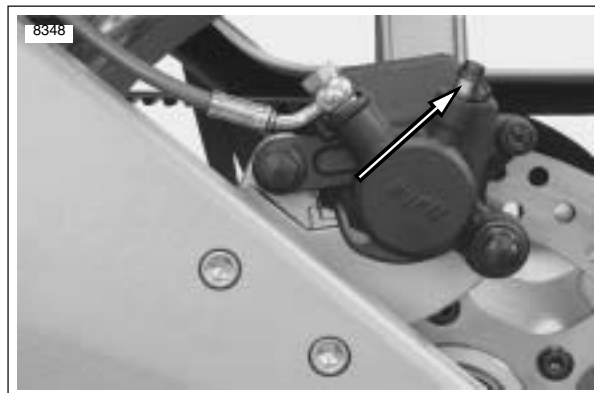

Figure 1-10. Rear Caliper Bleeder Valve
1. See Figure 1-10. Install end of plastic tubing over rear caliper bleeder valve; place other end in a clean container. Stand motorcycle upright.